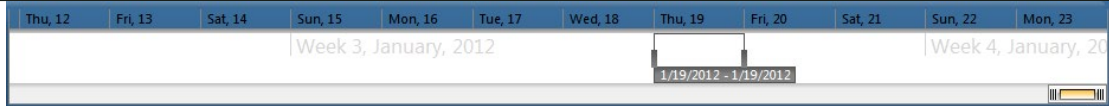

Figure 18 – Date/Time Selection
- **Specify the date range** - The time bar at the top of the screen shows a range of selectable dates. **See Figure 18.**